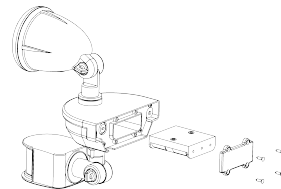

Fig. 2
- Turn the fixture to the OFF position and unplug the solar panel from the cable leading to the fixture. Remove fixture from it's mounting surface by removing the two screws on each side of the fixture. Remove the 4 screws on the back (Fig. 2). Pull out the battery tray and remove the old batteries by hand. Insert new batteries and reinsert battery tray. Be sure that wiring has not been pinched. Replace battery cover with the 4 screws provided. Allow fixture to receive three full days of sunlight before turning fixture ON.